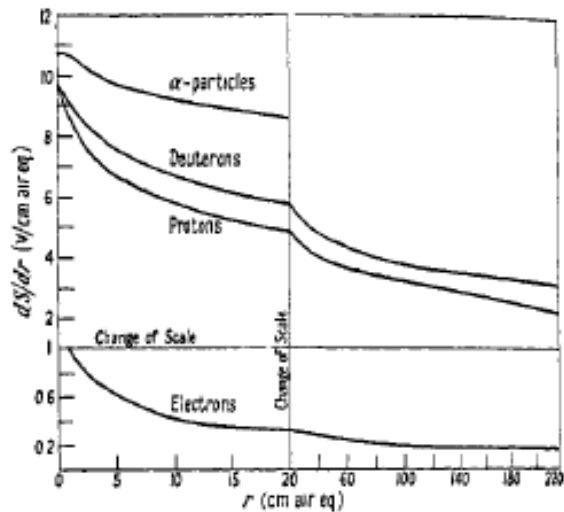

Figure 2. Specific fluorescence dS/dr plotted against residual range r for different particles in anthracene.
- The Figure 2 shows light yield per path length variation for different particles